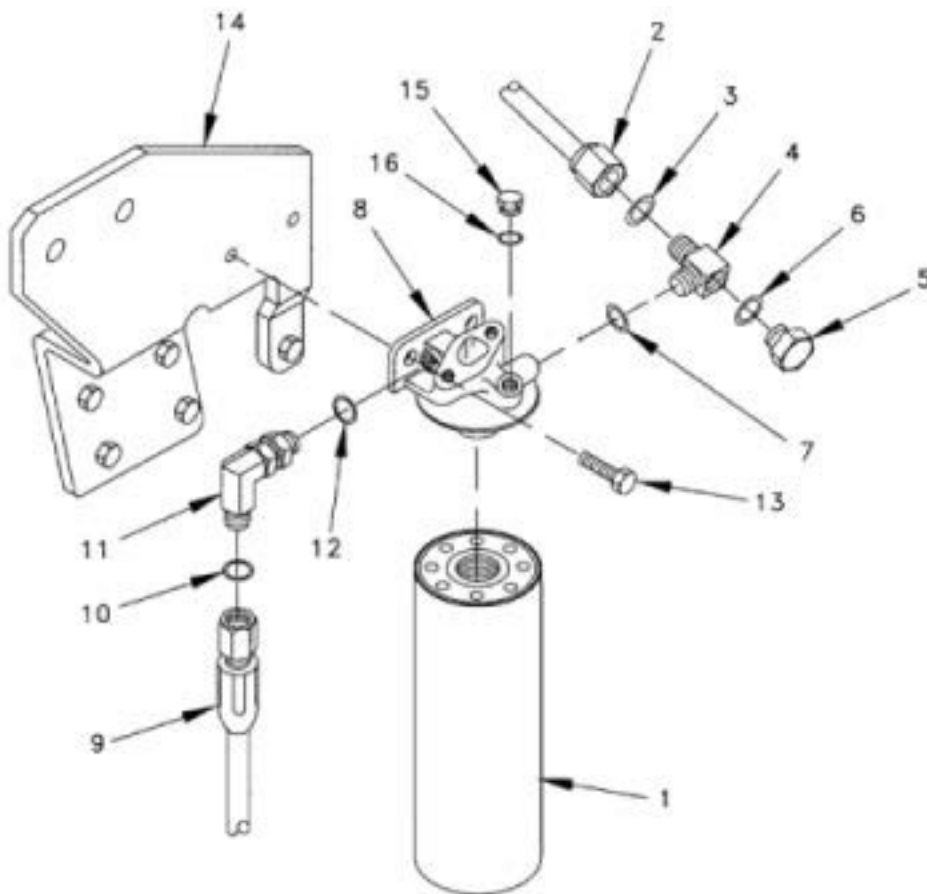

Figure 1. Fuel Filter Base.
1. Place suitable drain pan under fuel filter element (Figure 1, Item 1) to retain spillage.
2. Remove fuel filter element (Figure 1, Item 1) using strap wrench if necessary.
3. Disconnect tube assembly (Figure 1, Item 2) and remove O-ring (Figure 1, Item 3) from tee (Figure 1, Item 4).
4. Remove plug (Figure 1, Item 5), O-ring (Figure 1, Item 6), tee (Figure 1, Item 4), and O-ring (Figure 1, Item 7) from fuel filter base (Figure 1, Item 8).
5. Disconnect hose (Figure 1, Item 9) and remove O-ring (Figure 1, Item 10), elbow (Figure 1, Item 11), and O-ring (Figure 1, Item 12) from fuel filter base (Figure 1, Item 8).
6. Remove two bolts (Figure 1, Item 13) and fuel filter base (Figure 1, Item 8) from bracket (Figure 1, Item 14).
7. Remove plug (Figure 1, Item 15) and preformed packing (Figure 1, Item 16) from fuel filter base (Figure 1, Item 8).
1. Install preformed packing (Figure 1, Item 16) and plug (Figure 1, Item 15) on fuel filter base (Figure 1, Item 8).
2. Install fuel filter base (Figure 1, Item 8) on bracket (Figure 1, Item 14) and secure with two bolts (Figure 1, Item 13). Tighten bolts.
3. Install O-ring (Figure 1, Item 12), elbow (Figure 1, Item 11), and O-ring (Figure 1, Item 10) on fuel filter base (Figure 1, Item 8), and connect hose (Figure 1, Item 9).
4. Install O-ring (Figure 1, Item 7), tee (Figure 1, Item 4), O-ring (Figure 1, Item 6), and plug (Figure 1, Item 5) on fuel filter base (Figure 1, Item 8).
5. Install O-ring (Figure 1, Item 3) on tee (Figure 1, Item 4), and connect tube assembly (Figure 1, Item 2).
6. Apply light coat of fuel to seal and install fuel filter element (Figure 1, Item 1) by hand. Turn $\frac{3}{4}$ additional turn after seal contacts fuel filter base (Figure 1, Item 8).